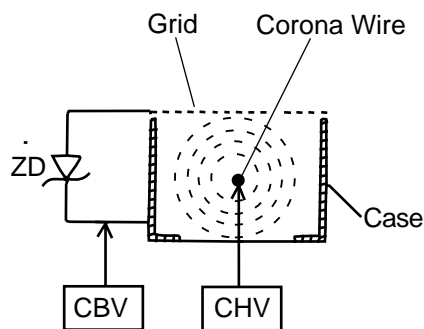

Fig.4-9
(1). Structure of Charger Unit (Fig.4-7 and Fig.4-9)